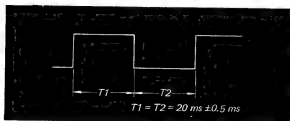

Fig. 7-2
2. Adjust R129 so that intervals T1 and T2 are 20 msec ± 0.2 msec as shown in Fig. 7-2.